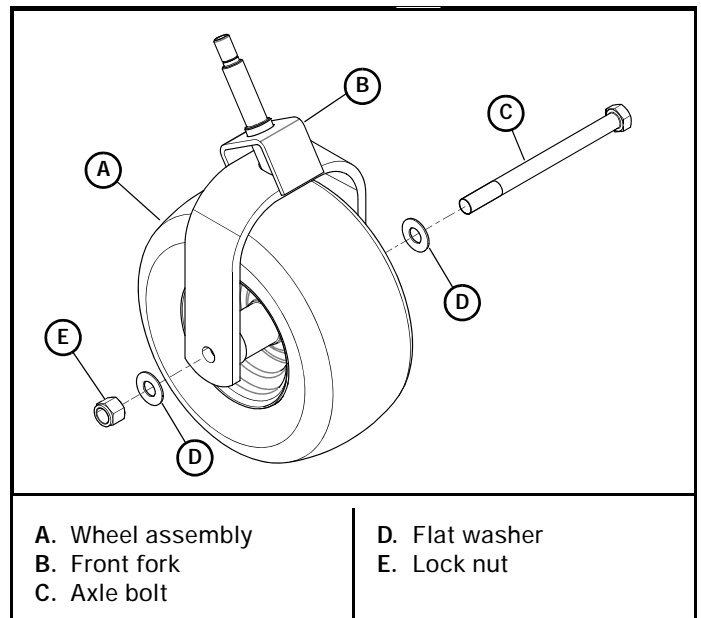

Figure 4-44
7. Slide the wheel assembly between the caster fork legs and assemble to the fork using the axle bolt, flat washers, and lock nut. Figure 4-44